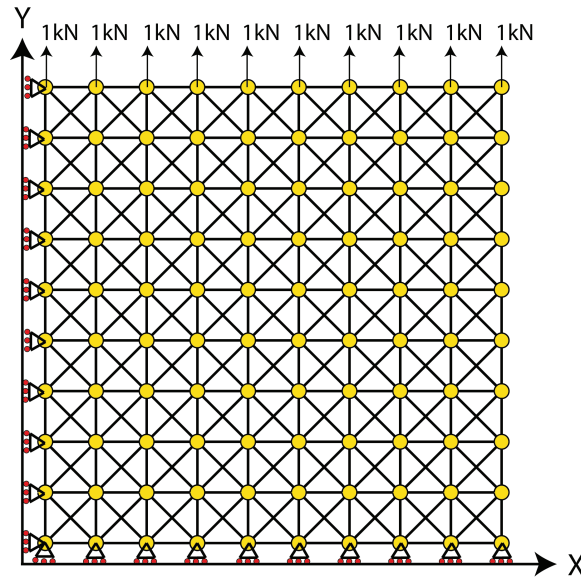

Figure 3: 2D truss model system to compute Young's modulus
- (a) Apply a 1 kN vertical load (+Y direction) on all the top nodes of the structure (Fig.3) measure the elongation (ΔL).